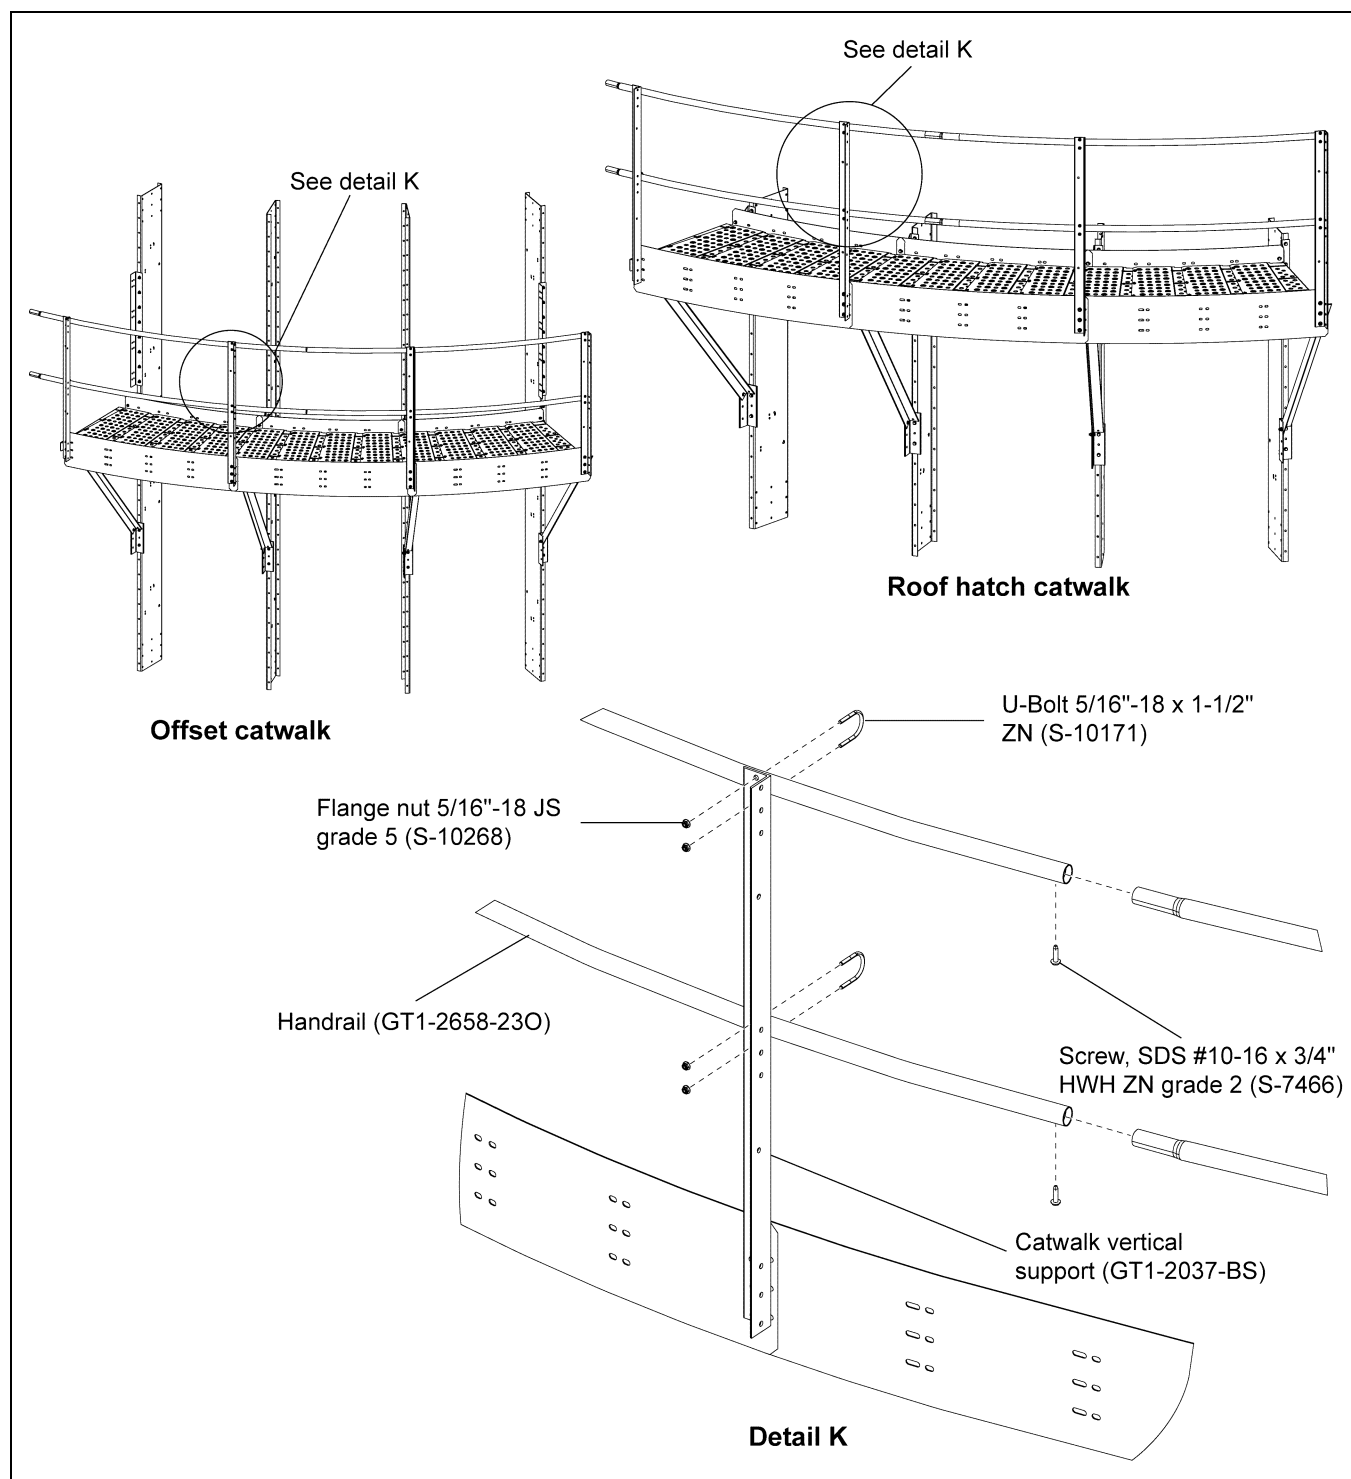

Figure 6U Handrail (GT1-2658-230) Installation for Offset and Roof Hatch Catwalks
1. Install the long handrail (GT1-2658-230) to the catwalk vertical support (GT1-2037-BS) using 5/16"-18 ZN U-bolts (S-10171) and 5/16"-18 JS grade 5 nuts (S-10268) to tighten the handrail with vertical post. *(See Figure 6U.)*
2. Use the self-tapping screws SDS #10-16 x 3/4" HWH ZN grade 2 (S-7466) at all handrail pipe joints. *(See Figure 6U.)*